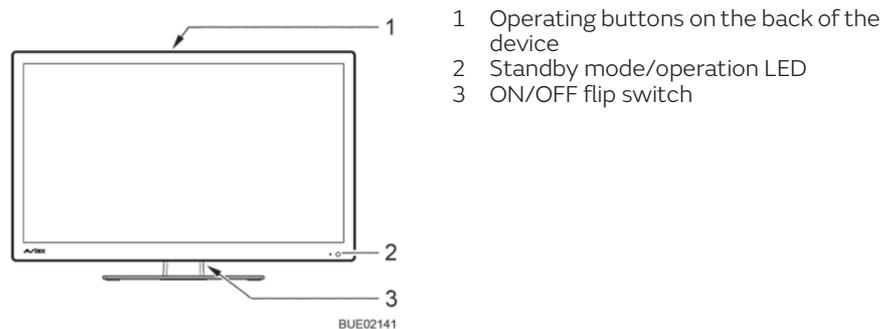
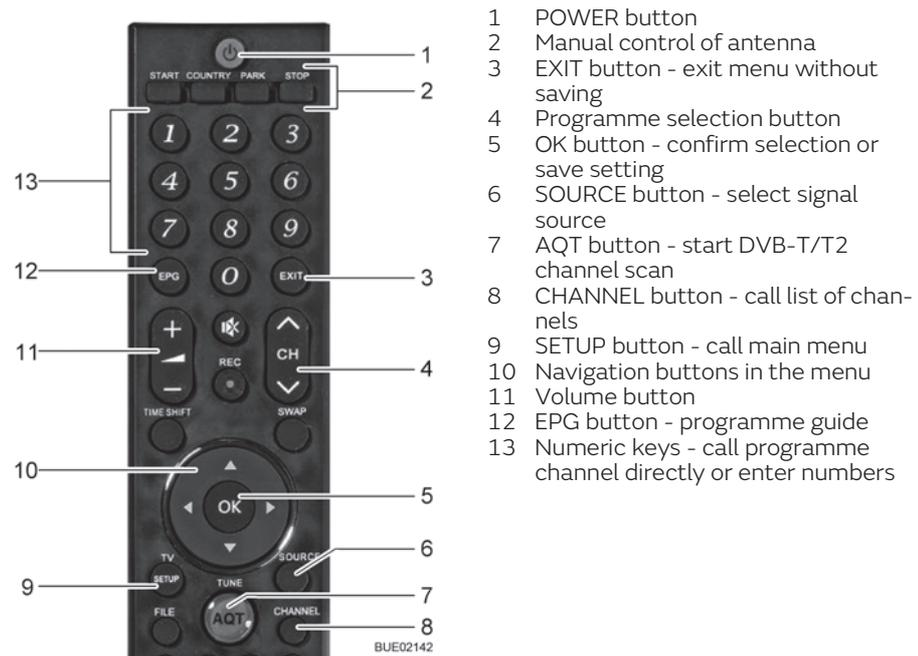

Fig. 55 Operation on the flat screen
Fig. 56 Remote control
- Set flip switch (Fig. 55,3) on the flat screen's back to ON. The system changes to standby mode. The LED (Fig. 55,2) is lit red.
- Press the POWER button (Fig. 56,1) on the remote control. The LED (Fig. 55,2) is lit blue.
- Press the programme selection buttons (Fig. 56,4 or Fig. 56,13) until the desired TV programme has been selected.
- Press the SOURCE button (Fig. 56,6) repeatedly until the desired signal source has been selected.
- Press the PARK button (Fig. 56,2). The antenna moves into parking position.
- Press the SOURCE button (Fig. 56,6) repeatedly until the desired signal source (e.g. DVD) has been selected.
- Press the POWER button (Fig. 56,1) on the remote control. The system changes to standby mode. The LED (Fig. 55,2) is lit red.
- Set flip switch (Fig. 55,3) on the flat screen's back to OFF.